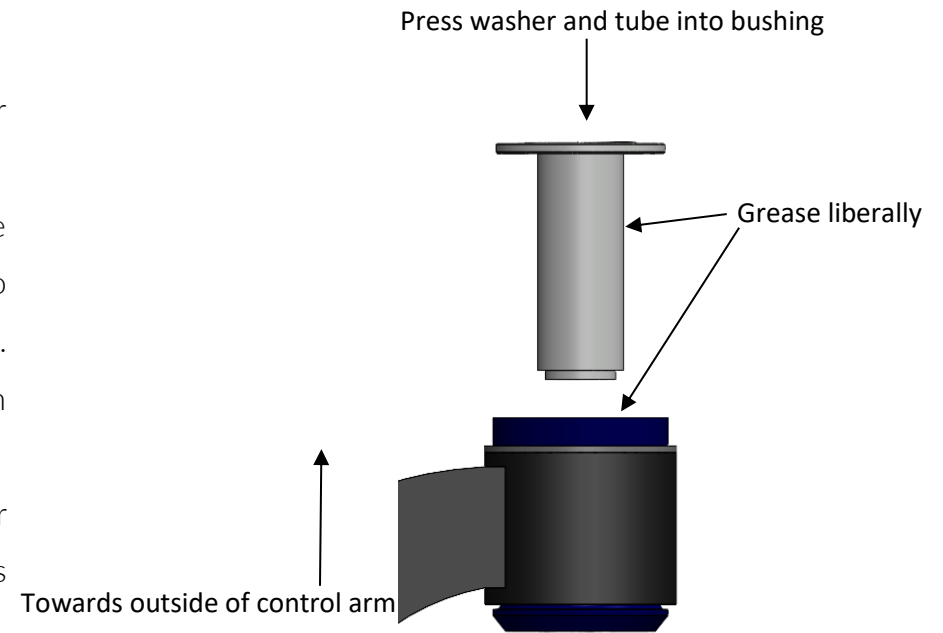

Figure 03 – Pressing crush tube into bushing
- Using the grease provided, liberally grease the inner bore of the bushing and the outer face of the crush tube, then press the tube into the bushing until the washer contacts the bushing. Refer to Figure 03.